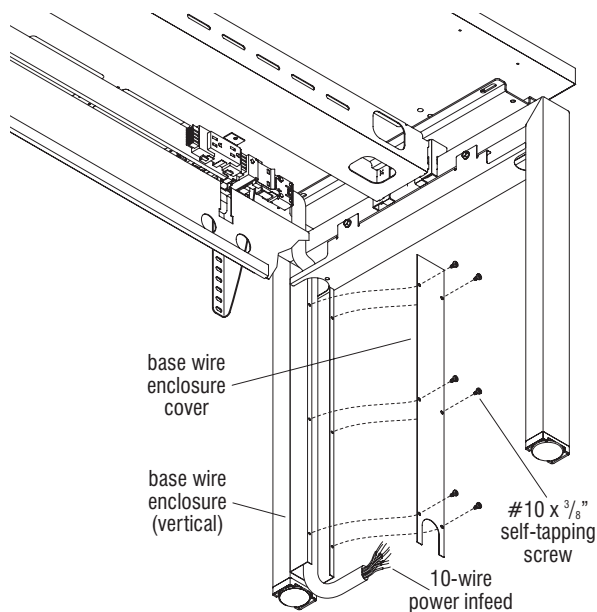

Figure 4
9. After power infeed, or any desired wires have been run through the base wire enclosure to the floor, position the cover of the base wire enclosure (vertical) with the U-shaped opening down as illustrated. Mate the cover to the wire enclosure, aligning the mounting holes of both. Using six #10 x 3/8" self tapping screws, secure the cover to the base wire enclosure (Figure 4).